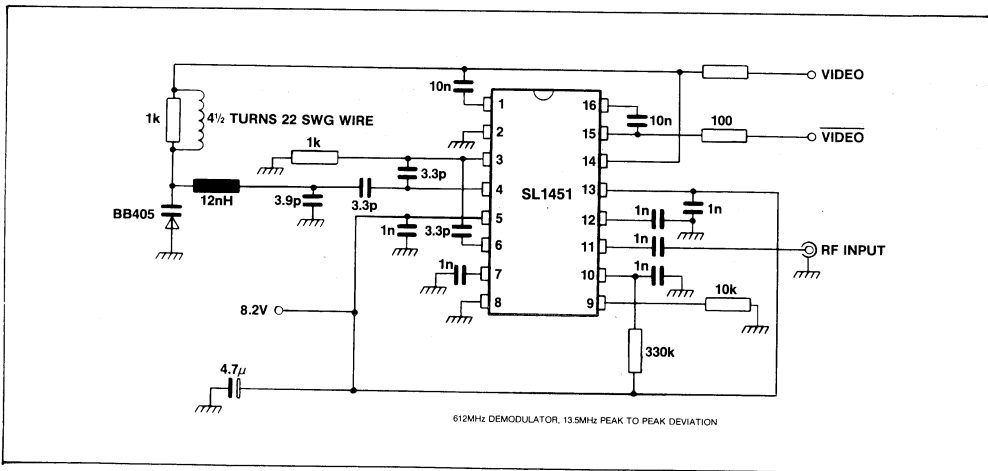

Fig.3 Typical application circuit
- All characteristics from oscillator lock range to video bandwidth are determined by the application circuit. These results were gained with the circuit in Fig.3.